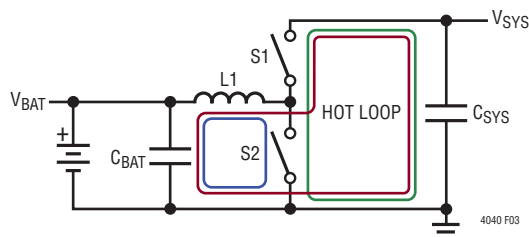

Figure 3. Hot-Loop Illustration for the LTC4040 Switching Converter
1. Even though the converter can operate in both step-down (buck) and step-up (boost) mode, there is only one hot-loop containing high-frequency switching currents. The simplified diagram in Figure 3 can be used to explain the hot-loop in the LTC4040 switching converter. Current follows the blue loop when switch S2 (NMOS) is closed and the red loop when switch S1 (PMOS) is closed. So it is evident that the current in the C_{BAT} capacitor is continuous whereas the C_{SYS} current is discontinuous forming a hot loop with V_{SYS} pins and GND as indicated by the green loop. Since the amount of EMI is directly proportional to the area of this loop, the V_{SYS} capacitor, prioritized over all else, should be placed as close to the V_{SYS} pins as possible and the ground side of the capacitor should return to the ground plane through an array of vias.